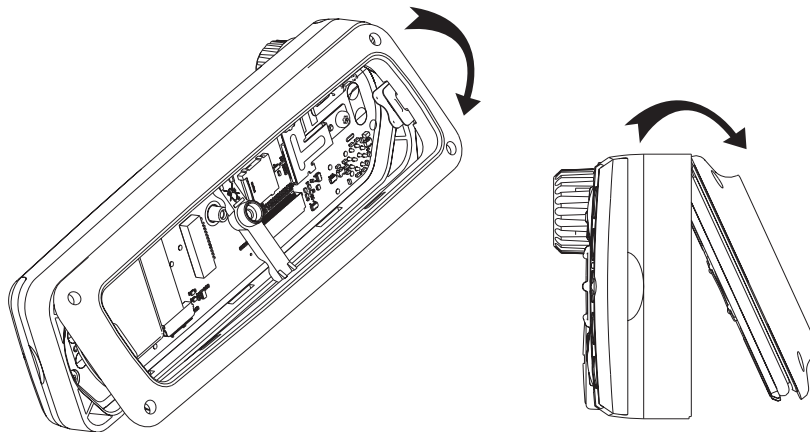

Figure 6-17 Reassemble Enhanced Control Head Housing
5. Snap the back housing into the Enhanced Control Head front housing in the orientation shown in Figure 6-17, on page 6-16.